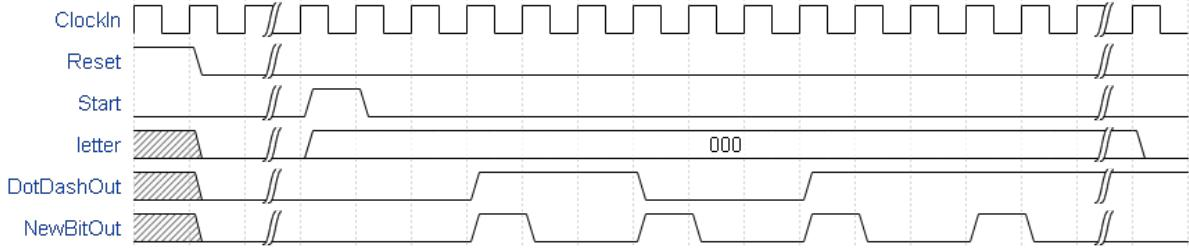

Figure 3: Timing diagram for Part 3
Figure 3 shows a timing diagram of how your circuit should operate, for the letter *A*. The letter is selected by the `Letter` input using 000 for A, 001 for B, etc. The Morse code for
the letter is output when the **Start** signal is asserted, for 1 clock period. Figure 3 shows the first 4 bits of *A* being flashed, for a very low clock frequency. Using the clock in the marker or the FPGA will cause the **DotDashOut** signal to stay 0 or 1 for many more clock cycles.
1. There maybe many cycles between **Reset** being de-asserted and **Start** being asserted. This is shown with the two wavy lines in Figure 3.